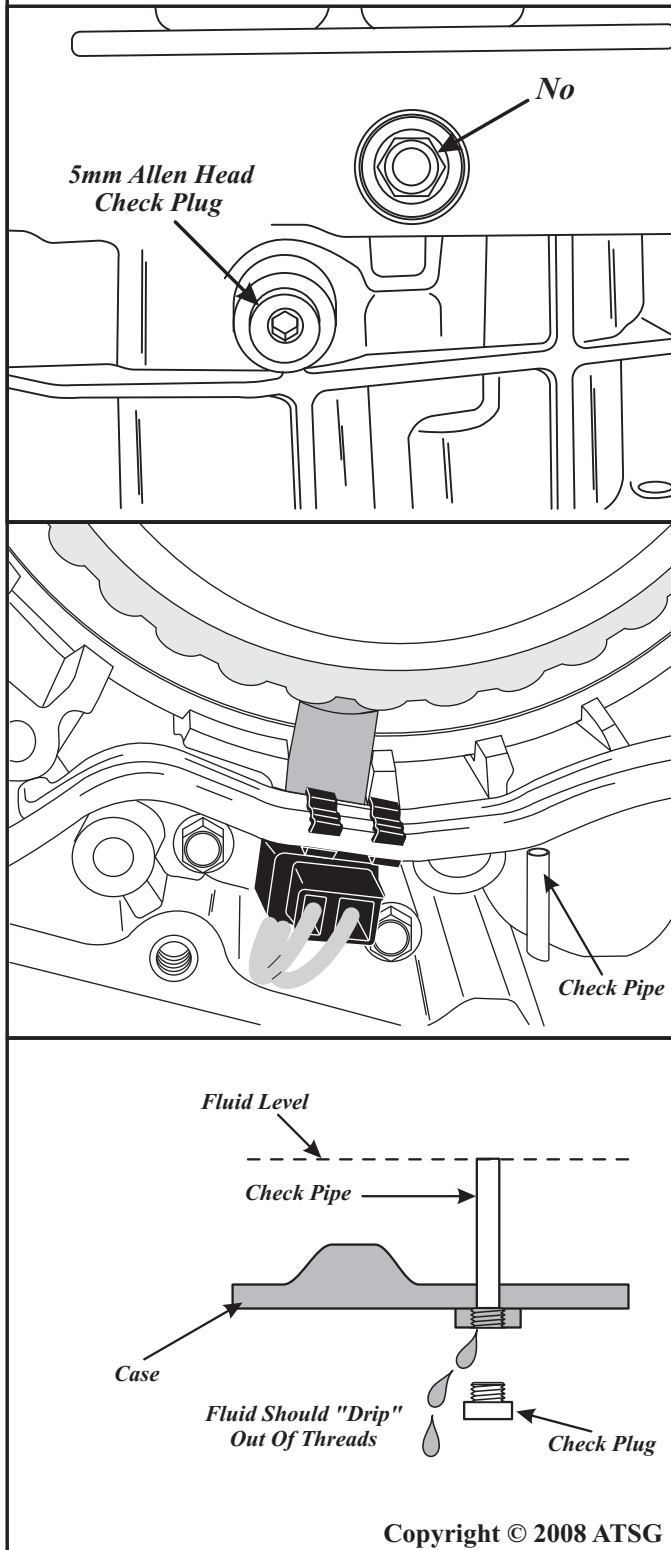
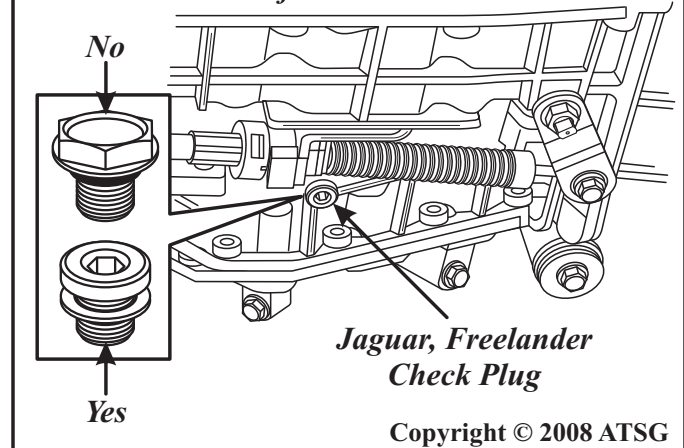
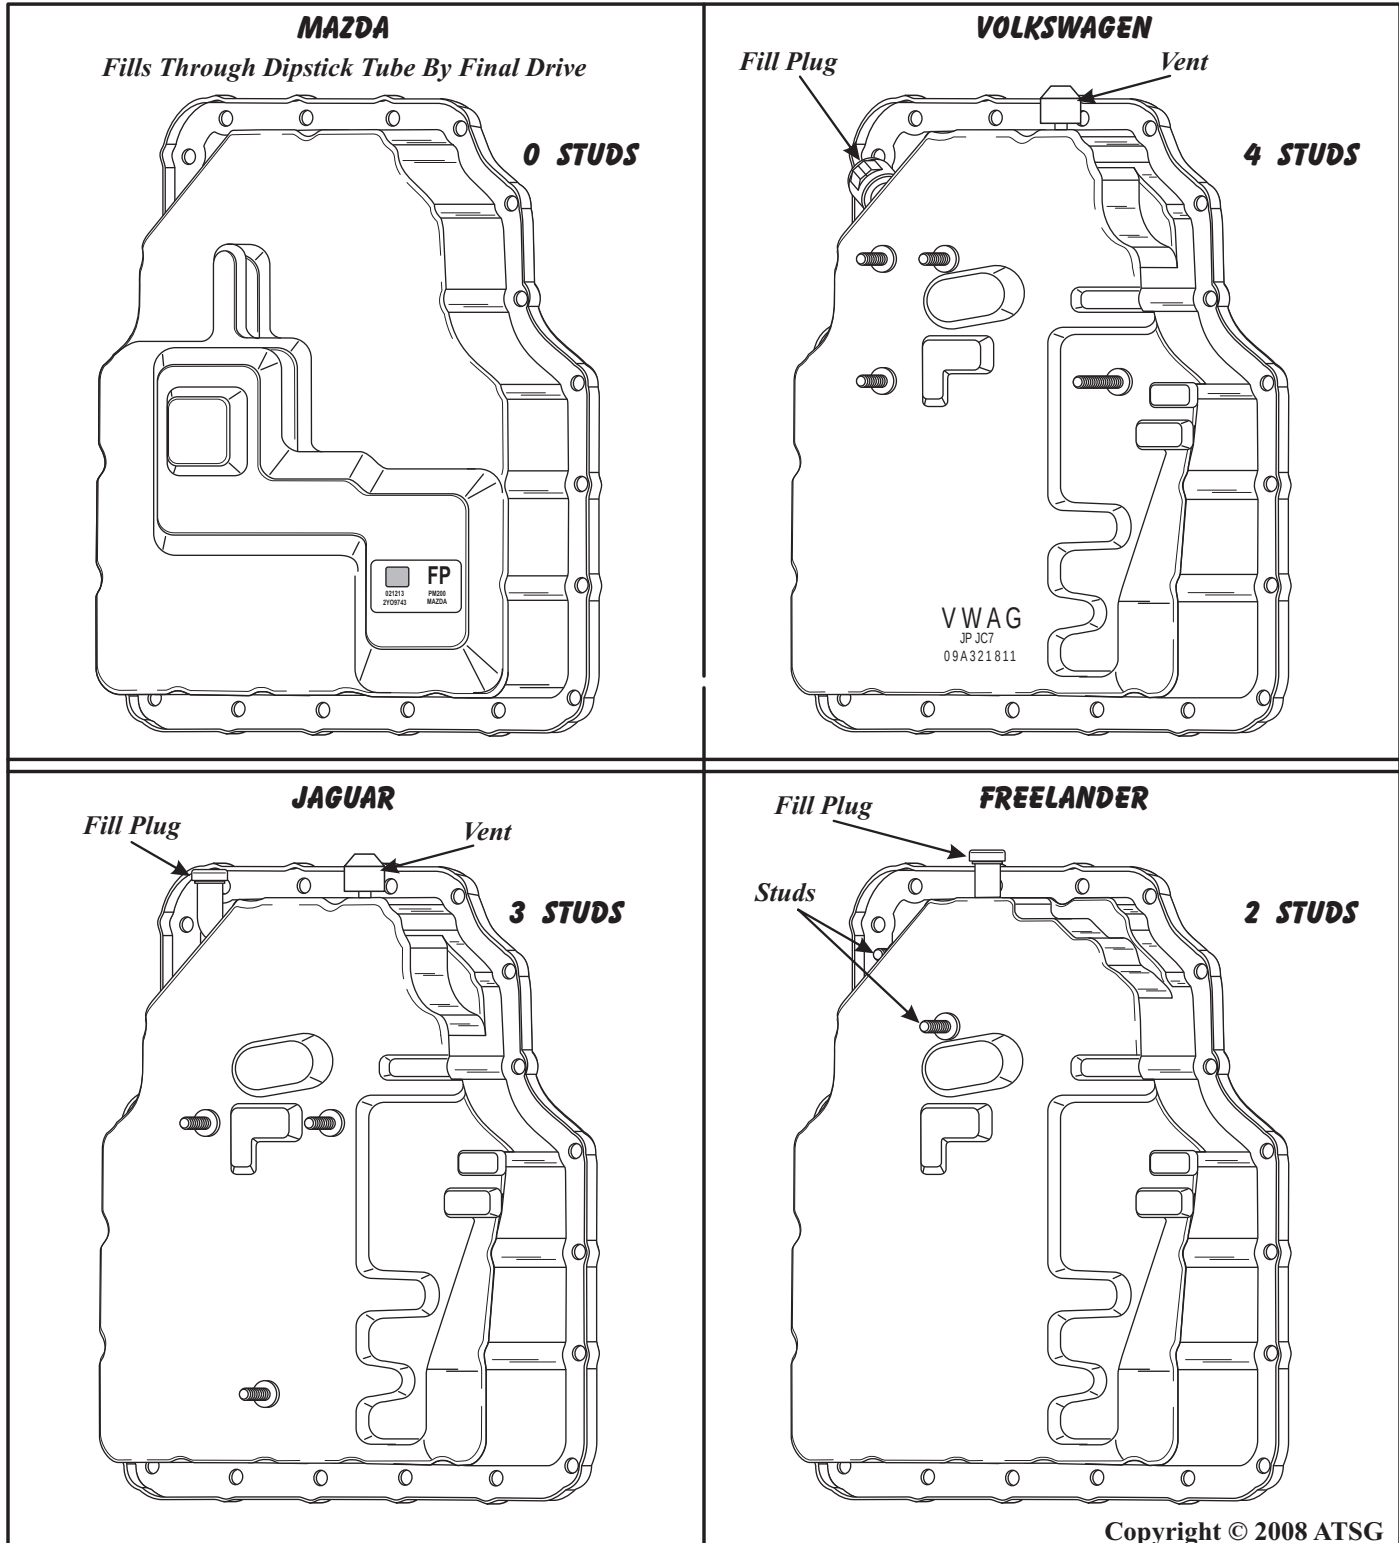

Figure 121
Figure 122
Figure 123
The Volkswagen, Jaguar, and Freelander have the fluid level check plug installed vertically into the bottom side of the transaxle case, as shown in Figure 121. The fluid level check plug all have a 5mm Allen Head, and closes the lower end of an internal fluid level tube, as shown in Figure 121. Only the excess fluid will be expelled when the check plug is removed. The Jaguar and Freelander check plug is located along side of the selector cable bracket, as shown in Figure 122. The Volkswagen check plug is located about 4 inches behind the pan rail on the bottom of the transaxle case. All three have 5mm allen head, as shown in Figure 122.
2. Remove the fill plug from the top of side cover, as shown in Figure 123.
9. If no fluid comes out, add the appropriate ATF until it drips intermittently (See Figure 121).
Each of the oil pans are also different, as shown in Figure 123. The Volkswagen, Jaguar and Freelander all have studs on the oil pan, in different locations, for various shaped brackets for the individual applications. Notice also that those three have a fill
CORRECTION: Some technicians have said they were able to lift the band back into position through the servo bore. If this cannot be achieved, the transaxle must be removed and disassembled to gain access to the band to place it back into proper position. When filling the unit, remove the fluid check plug from the bottom of the case, as shown in Figure 121 and 122, and fill the unit through the fill pipe located on top of the side of the pan, as shown in Figure 123.